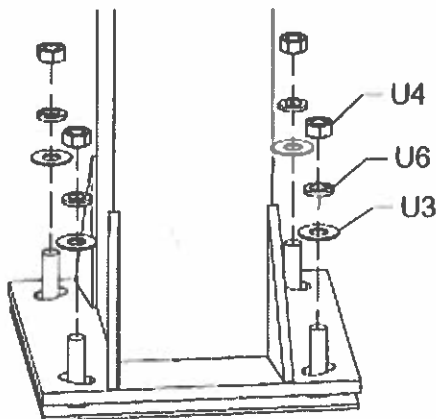

FIGURE 1B
- b. Remove the padding from main post (A). Place the main post (A) over the J-Bolts. Slide a 18mm thick washer (U3), a Lock washer 18mm (U6) and thread a 18mm hex nut (U4) to each J-Bolt. Tighten the nuts only a few turns onto the J-Bolts as shown in FIGURE 1B.
- c. If the main post (A) is not exactly vertical, adjust the 18mm J-Bolt hex nuts (U4) located under the post base. Tighten all of the hex nuts (U4) above post base when main post (A) is vertical.